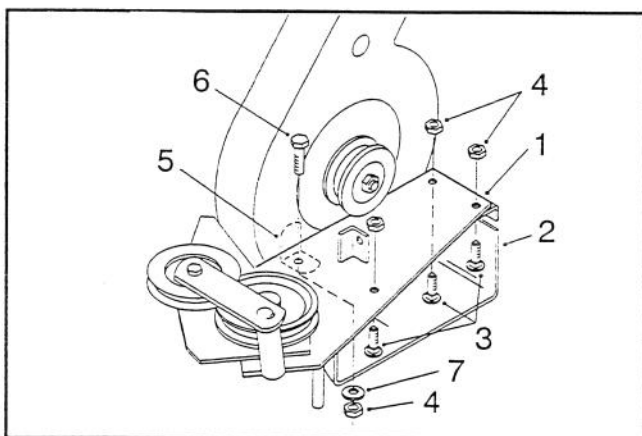

Figure 4
1. Install the blower mounting plate assembly to the blower housing using three $5/16$ " x $3/4$ " carriage-head bolts and $5/16$ " hex-head flange nuts (Fig. 4).
2. Install the L-shaped support bracket inside the blower housing using a $5/16$ " x 1" hex-head bolt, $5/16$ " flat washer and $5/16$ " hex-head flange nut (Fig. 4). Do not tighten the flange nut.
3. Pull the L-shaped support bracket up tight against the inside wall of the blower housing and tighten the flange nut (Fig. 4).